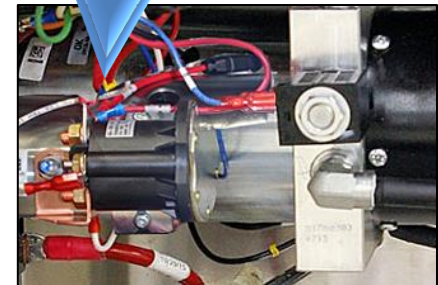

Figure 54
6. The positive (red) wire from the battery charger is connected to the solenoid. Disconnect it (Figure 54).